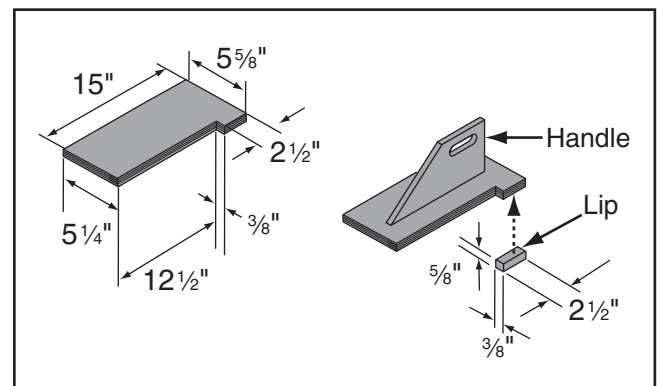

Figure 93. Push block dimensions and construction.
3. Using the $\frac{3}{4}$ " material you used in the previous steps, cut out pieces for the push block per the dimensions shown in **Figure 93**; for the handle, cut a piece 10" long by 5"–9" high and shape it as desired to fit your hand.